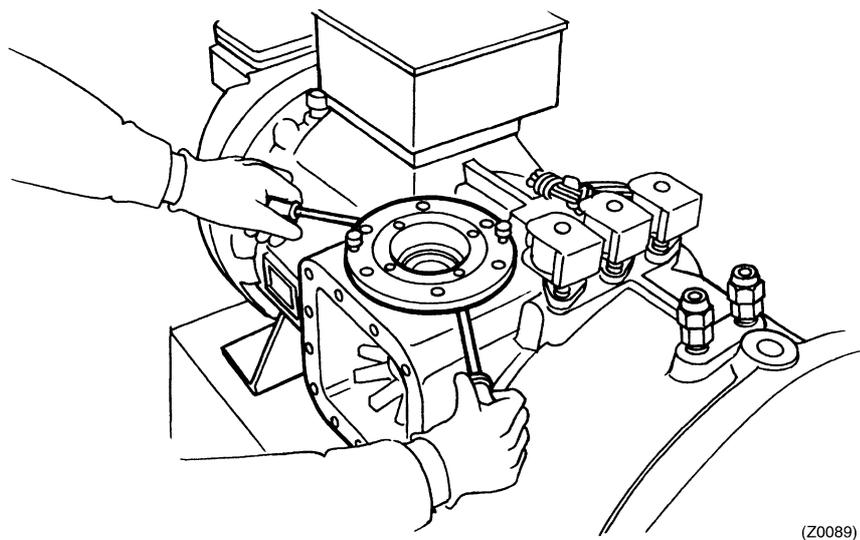

Fig. 4-8 Removing lower bearing holder
- ① In the guide bolt hole, thread the bolt that was used for the lower bearing holder mounting and lift the lower bearing holder from the casing.
- ② Remove the shims inserted between the lower bearing holder and casing. (Do not lose the shims.)
- ③ The lower bearing holder and the casing are sealed with an O-ring. Therefore, the lower bearing holder is hard to be removed from the casing. To separate the lower bearing holder from the casing, insert two flat-blade screwdrivers or the like under the flanged part symmetrically as shown in Fig. 4-8 and then slowly twist the screwdrivers, or tighten the burst bolt with pad metal put to the burst bolt.